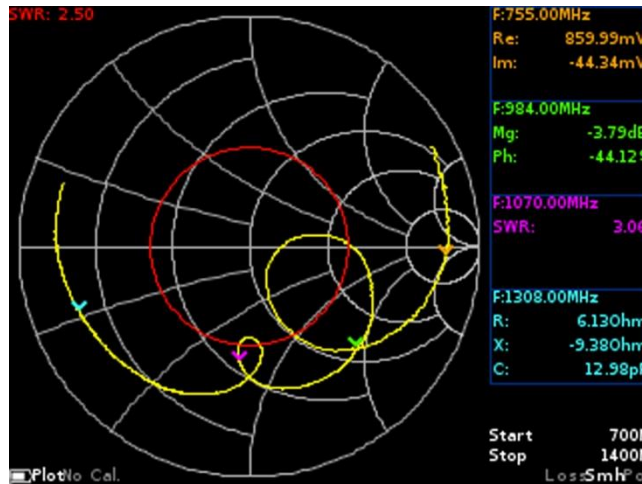

Figure 9.11 – Display of parameters measured by markers
9.4.7. The marker turned on and set to a user-defined frequency will be displayed on the measurement plot in the corresponding color. The parameters of the values displayed by the markers are displayed next to the measurement plot and change in real time (Figure 9.11).